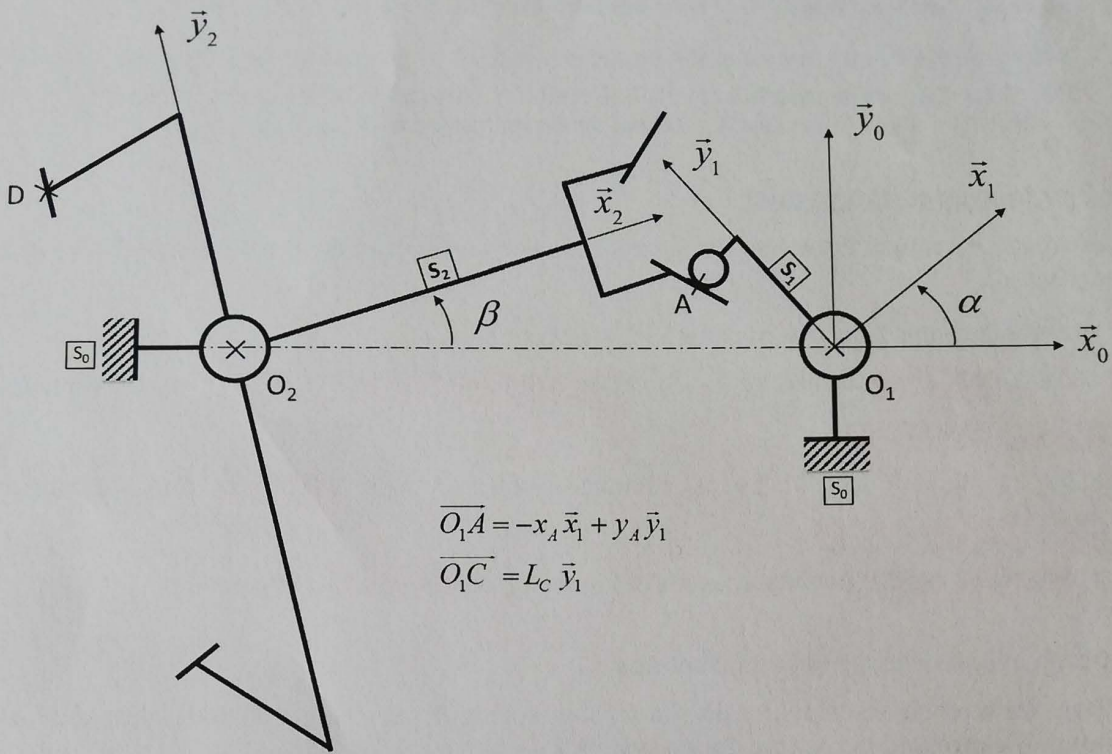
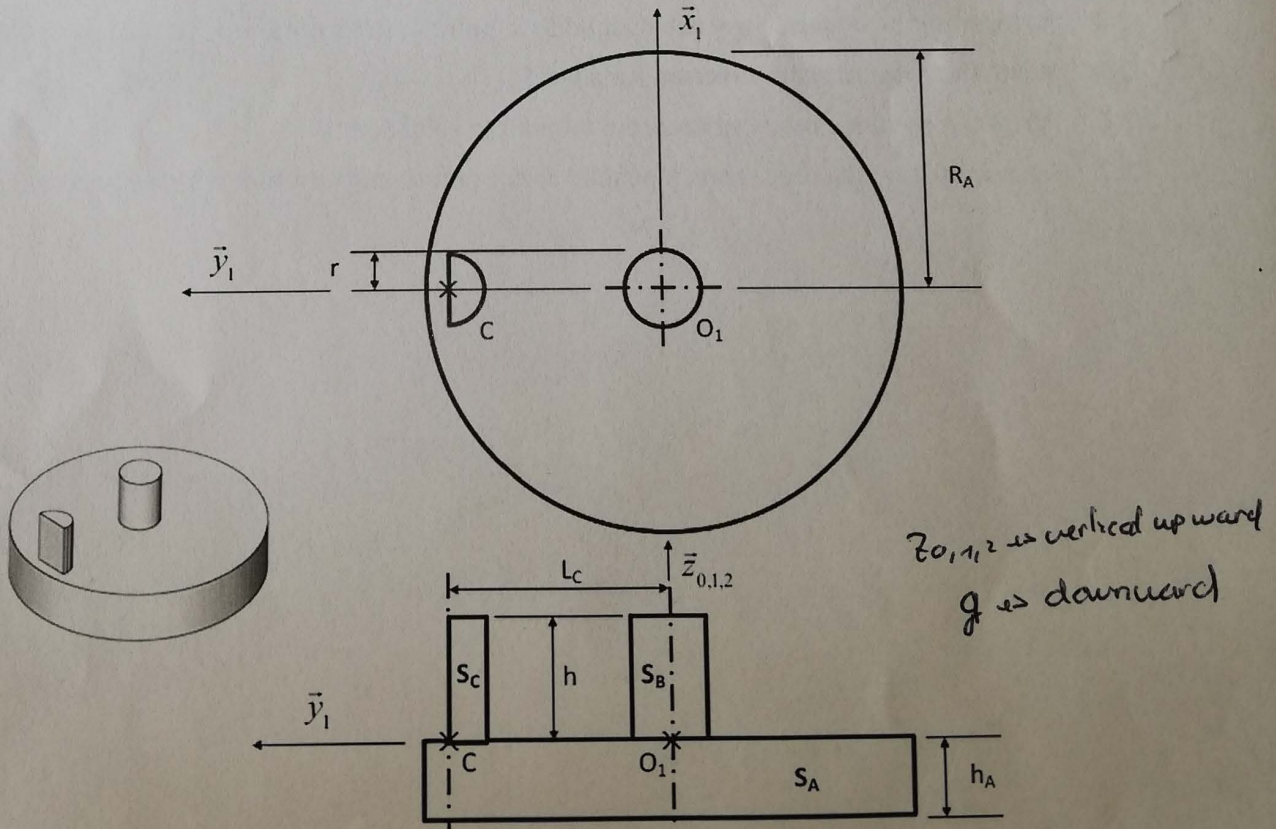

Figure 2 : Schematic representation of  $S_1$  and  $S_2$
Figure 3 : Solid  $S_1 = \{S_A \cup S_B \cup S_C\}$
This mechanism shown in **Figure 2** is operated by the energy stored in a torsion spring  $R_T$  of stiffness  $k$  (not represented in figure2) which makes solid  $S_1$  oscillate periodically by an angle  $\pm\alpha$  around axis  $(O_1, \vec{z}_0)$  at a frequency of a couple of Hz. Solid  $S_1$  comprises a large disc  $S_A$ , a small disc  $S_B$  and an impact jewel  $S_C$  (**Figure 3**). It is linked to the watch frame  $S_0$  by a revolute joint of axis  $(O_1, \vec{z}_{0,1,2})$  and parameter  $\alpha = (\vec{x}_0, \vec{x}_1) = (\vec{y}_0, \vec{y}_1)$  ;
All the geometrical parameters are defined in figure 2.
The kinematic scheme of the Swiss escapement anchor mechanism is represented in Figure 2. It is composed of:
- a torsion spring  $R_T$  (not represented in Figure 2), of stiffness  $k$ , acting on  $S_1$ .